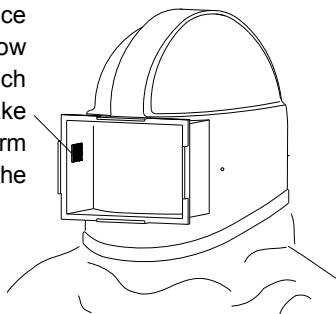

Figure 3
2.1.1.2 Don the helmet and temporarily place the monitor on one of the side walls of the window extension, as shown in Figure 3.